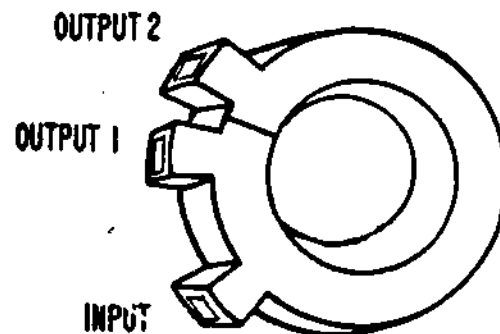

Figure 17
18. To make a waveguide act as a delay line, the waveguide is formed into a loop or circle as shown in Figure 17.